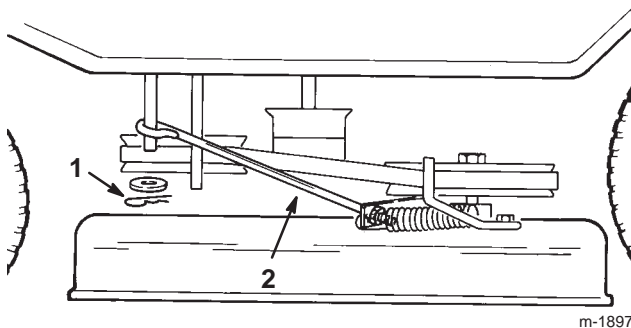

Figure 39
17. Install the blade control rod onto the blade control arm and secure it with the washer and hairpin cotter (Fig. 39).